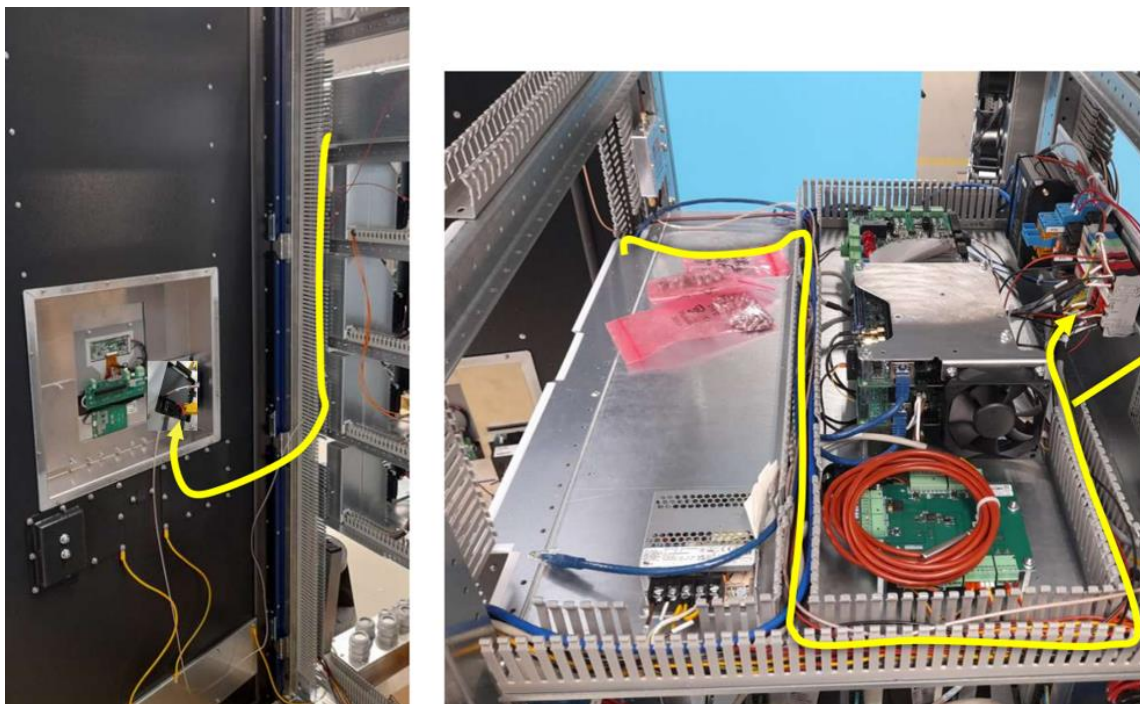

Figure 41. Routing of power supply cable to Apollo terminal
Step 18 Route 24V cable to X DC26 and X DC27 terminals according to **Figure 41**.